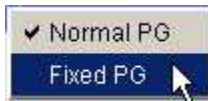

Figure 5.8 Fixed Parity Group Pop-Up Menu
4. From the  normal parity groups, select a parity group that you want to exclude from auto migration operations. Next, right click the  normal parity group icon and select **Fixed PG** from the pop-up menu (see Figure 5.8). The selected parity group is indicated by the  (red pin) parity group icon and becomes “fixed.”
Tip: If you want to enable logical volumes in a fixed parity group to be moved to another parity group, you must change the fixed parity group to a “normal” parity group. To do this, right-click the fixed parity group (indicated by the  (red pin) icon) and then select **Normal PG** from the pop-up menu (refer to Figure 5.8).